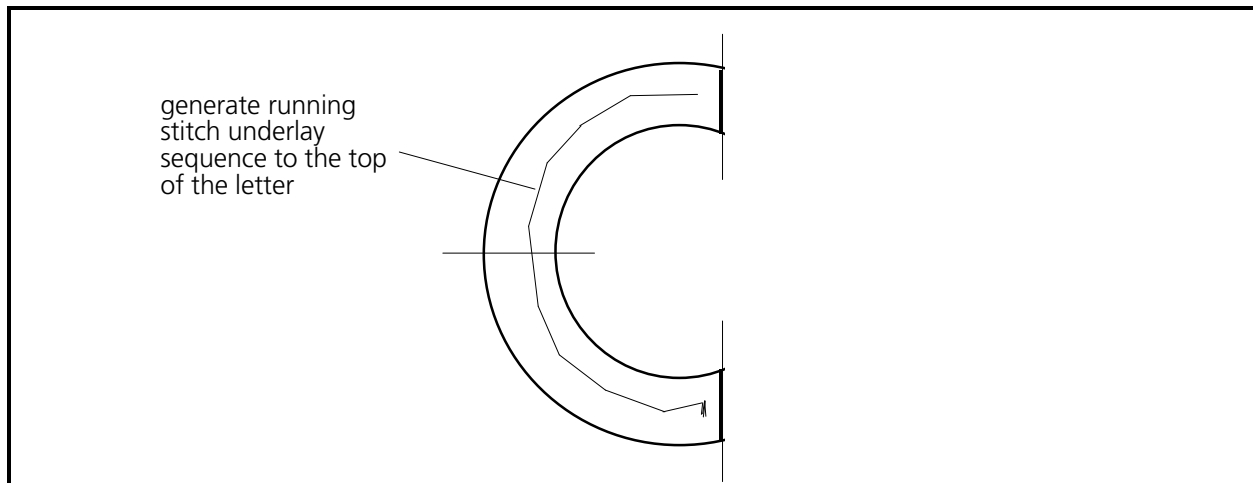

Figure 3-24
3. Perform a running stitch underlay with Mk1s to get to the upper right portion of the letter **c** (see Figure 3-24).